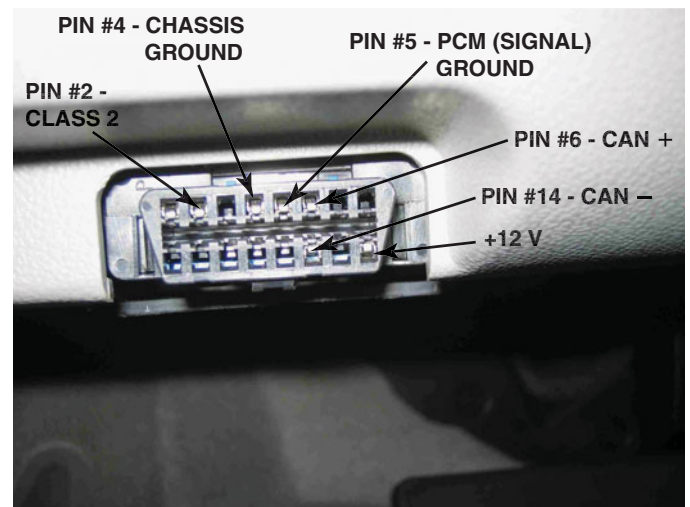

FIGURE 12-10 GMLAN uses pins at terminals 6 and 14.
- **High-speed GMLAN.** The baud rate is almost real time at 500 Kbs. This serial data method uses a two-twisted-wire circuit that is connected to the data link connector on pins 6 and 14. ● **SEE FIGURE 12-10.**